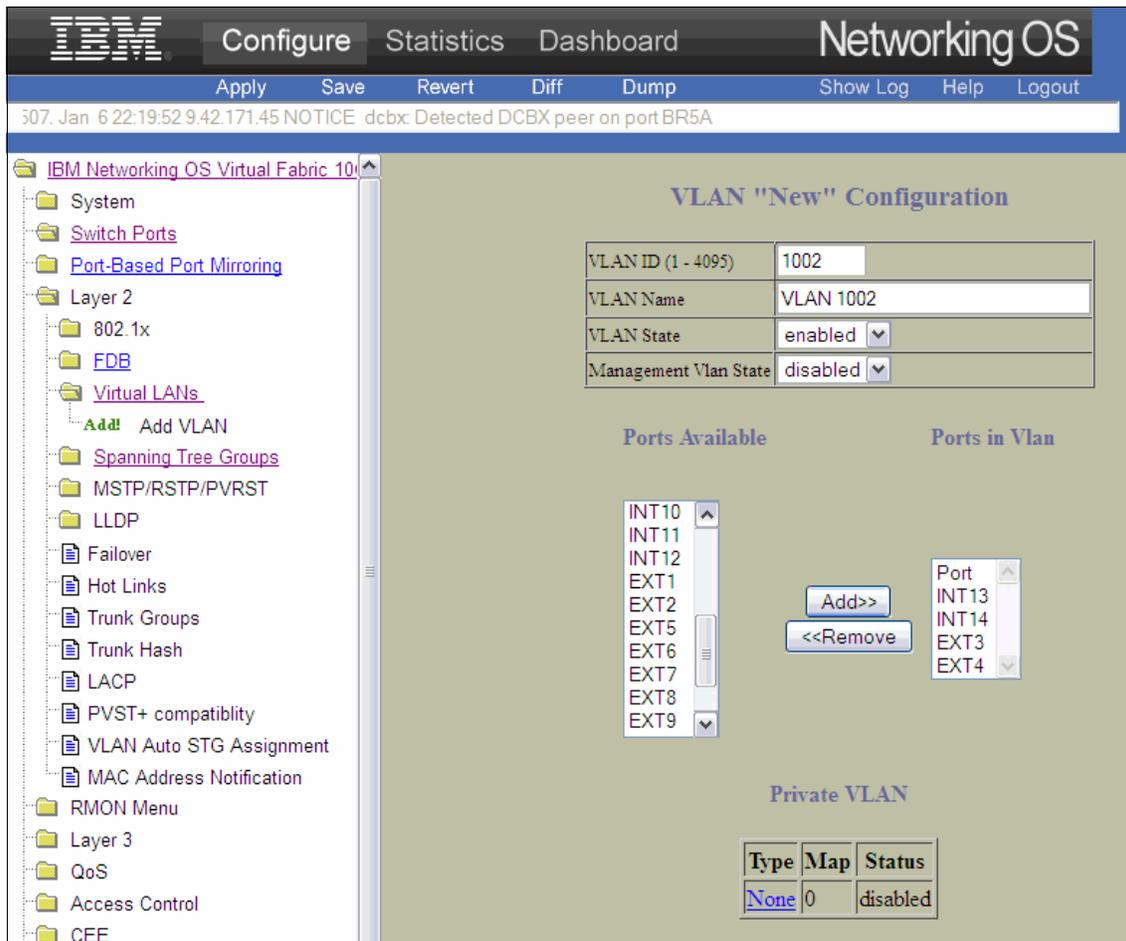

Figure 10-83 VLAN “New” Configuration pane
12. Create a VLAN 1002 and add INT1-14 ports and external port 4 on this VLAN (Figure 10-83):
14. Remove the external ports from the other VLANs. In the VLAN “New” Configuration pane (Figure 10-83 on page 326):